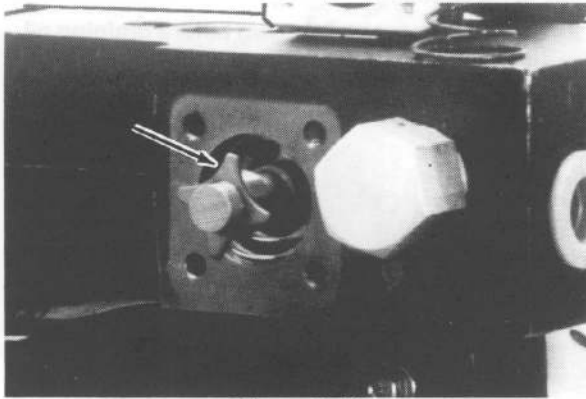

Figure 2-18
13. Position the spacer onto the Spool Valve. See Figure 2-18.